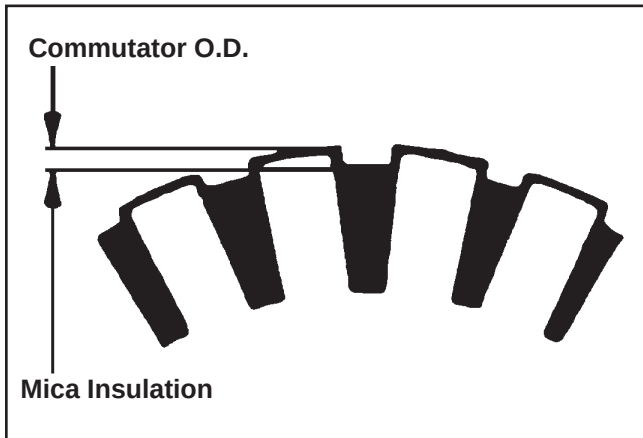

Figure 7-51. Commutator Mica Inspection.
- Clean and inspect the commutator (outer surface). The mica insulation must be lower than the commutator bars (undercut) to ensure proper operation of the commutator. See Figure 7-51.